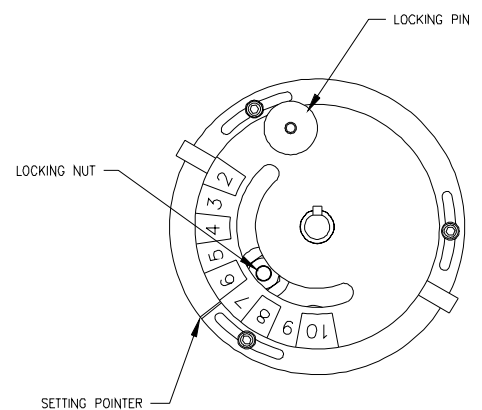

FIGURE 14
- 1) Loosen the pump-setting locking nut, pull out on locking pin and rotate the 2-10 setting pointer to the proper number. (See Figure 14).